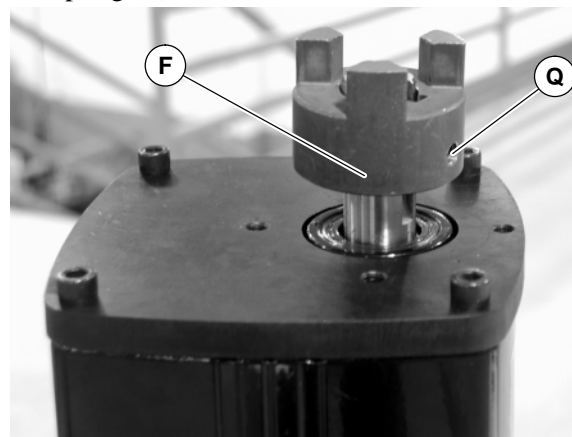

Figure 10
6. Loosen set screw (Q of Figure 10) and remove 3 jaw coupling (F).